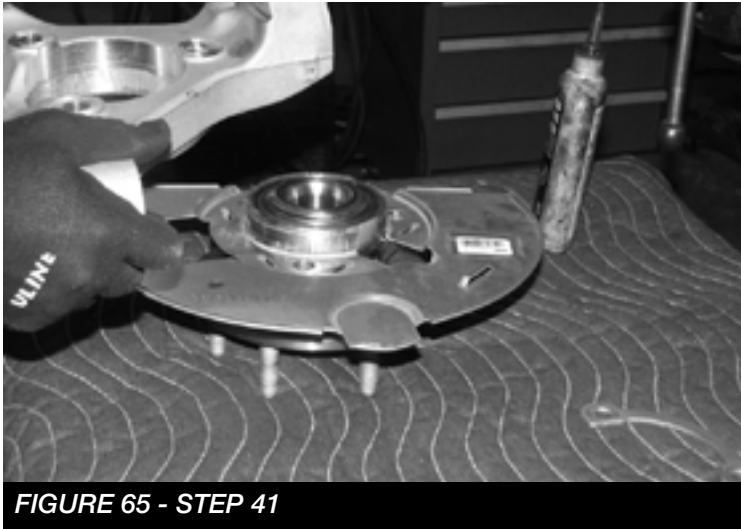

FIGURE 65 - STEP 41
41. Locate the factory spindles. Disassemble the factory spindles from the hub assemblies by removing the 4 bolts on each spindle. **SEE FIGURES 65**